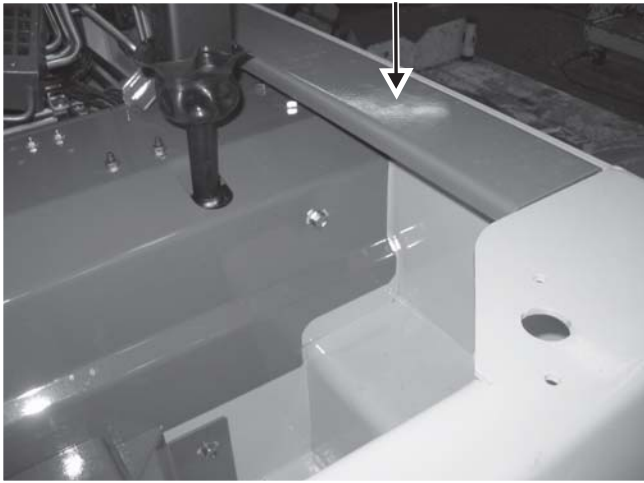

Fig. 8-98 Location of the left interior fender. Remove this fender to access the accumulator and its manifold.
1. Remove three machine screws securing the left interior fender (ROPS filler panel) to the side of the chassis. The machine screws can be accessed from outside the chassis. **Fig. 8-98**